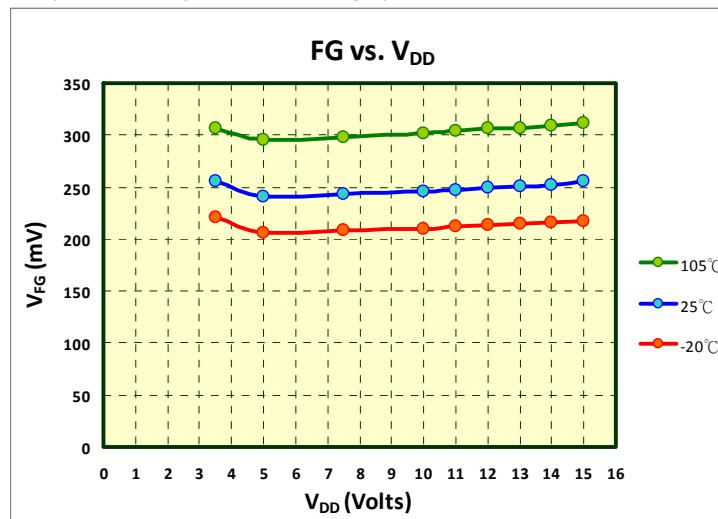

Figure 13
The output on voltage of FG signal is relative to the ambient temperature and supply voltage of the IC. Figure 13 is a curve of this relationship at the condition of a 5mA sink current. If the signal level isn't correct, the tachometer signal(FG) will be incorrectly detected by the succeeding system.